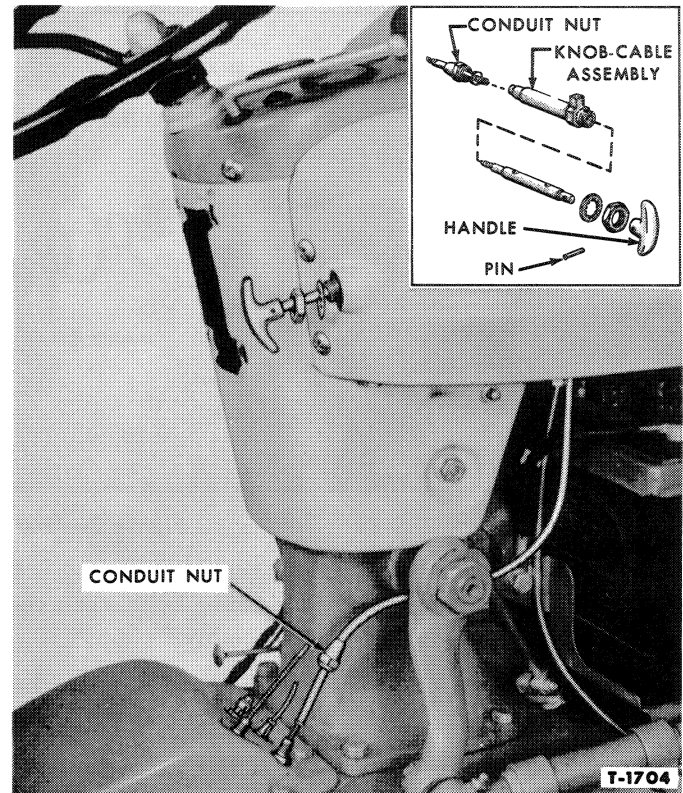

Figure 5—Select-O-Speed P.T.O. Handle
1. Pull out on the control handle and unscrew the nut so the knob assembly is free, as shown in Figure 5.
2. Unscrew the conduit nut at the transmission cover, Figure 5. Loosen the conduit nut at the
front end of the knob assembly, Figure 5, then turn the P.T.O. handle clockwise until the cable is free from the transmission.
3. Knock out the handle pin, see the insert, Figure 5, and remove the handle, nut, and lock washer.
7. Position the conduit and knob-cable assembly on the tractor. Slide the lock washer, nut, and handle on the knob-cable assembly, then secure the handle with the pin, shown in the insert, Figure 5.